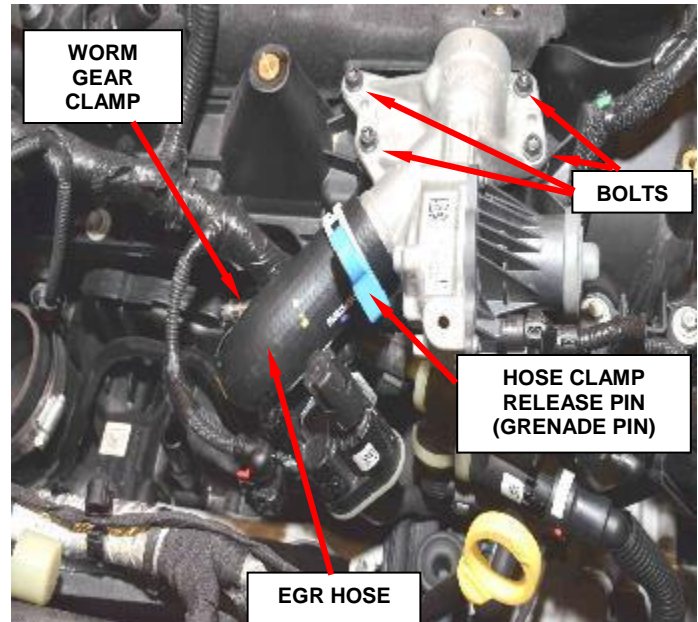

Figure 11 – Hose Clamp Release Pin
20. Position the EGR valve to the valve cover while installing the EGR hose to the intake manifold (Figure 11).
21. Install the four EGR valve bolts and tighten to 11 N·m (95 in. lbs.) (Figure 11).
22. Remove the hose clamp release pin (grenade pin) from the constant tension clamp (Figure 11).